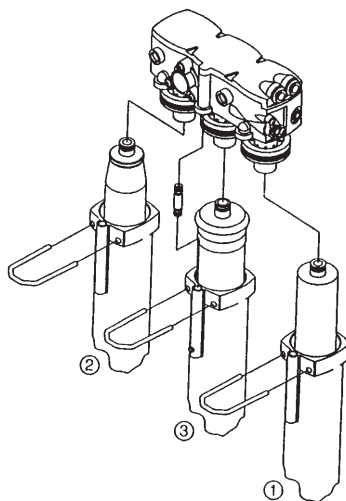
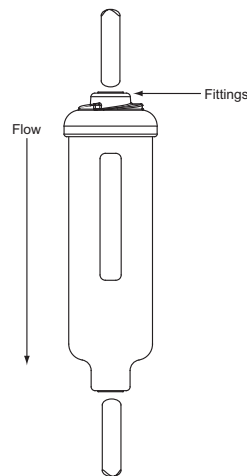

Figure 3.
Figure 4.
When properly maintained, your Good Water Machine will give you years of dependable service. Use the following as a guide to get the most out of your system. Service frequency may vary depending on your local water conditions. High sediment, chlorine, turbidity, or hardness levels may require more frequent service. Refer to Figure 3 & Figure 4.
Use the following procedure and the reference in Figure 3 when servicing the Good Water Machine.
3. Remove the polishing filter (Figure 4) and discard. Connect the tubing ends together with the tubing connector.
1. Add 15 ml (about one tablespoon) of bleach to the particle filter housing (#1, Figure 3). Replace all three housings on the manifold and insert the u-clips.
4. Remove the temporary tubing connector and replace it with a new polishing filter. Make sure the flow arrow on the polishing filter points to the faucet (Figure 4).